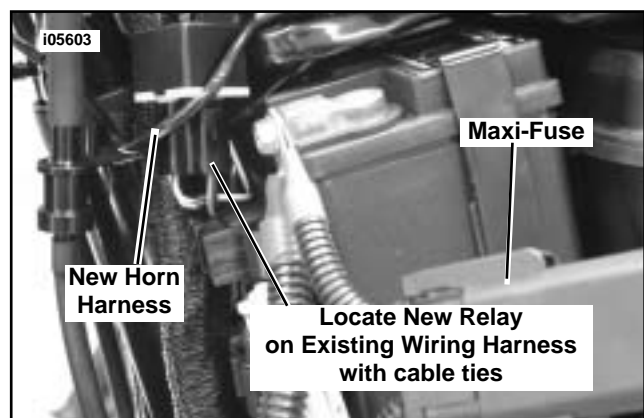

Figure 3. Remove Side Cover
4. See Figure 3. Remove left side cover from frame and set aside.
5. See Service Parts Illustration and Figure 3. Obtain the Wiring Harness (10) from the kit. Insert the Electrical Connector Housing (11) into the B+ Connector in the harness on the motorcycle. Re-install the Ignition Control Module. Tighten nuts securely.
6. See Figure 3. Begin routing new horn wiring harness upward between frame backbone and along left side of main harness toward front of bike.